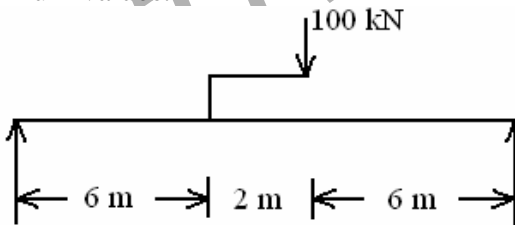

Figure 2
- b) Develop Bending moment and Shear force for the Figure 2 given below indicating the maximum and minimum values. [8+7]